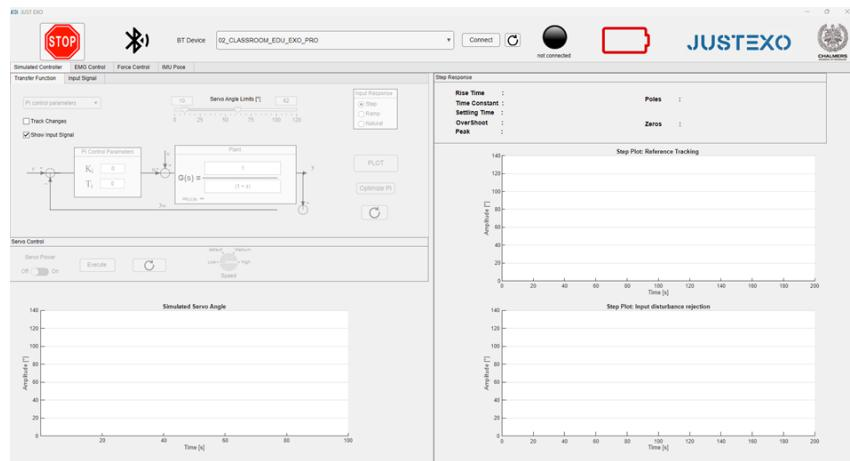

Figure 16: Choosing the EMG control tab.
5. As shown in Figure 16, choose the tab “EMG control” in the GUI.